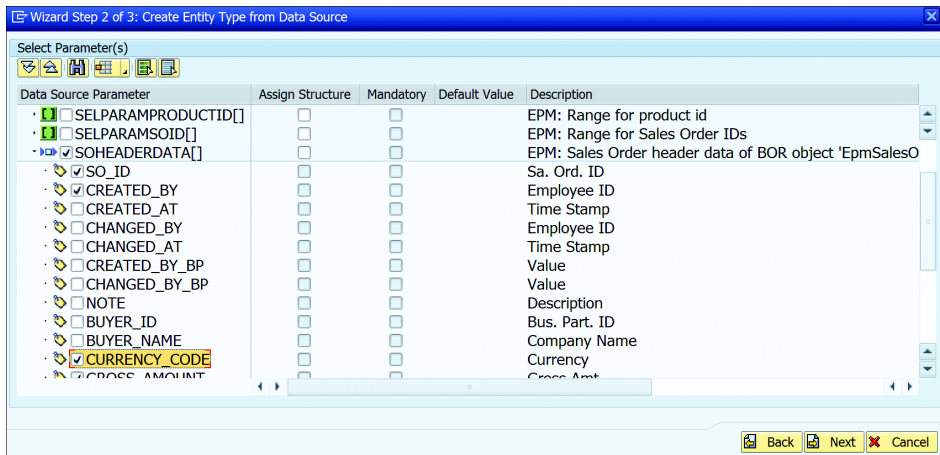

Figure 19.106 Add Fields from Interface
7. The wizard will present the interface of the RFC, from which you can select the relevant fields that should be added to the service. Expand the SOHEADER-DATA[] node and select the relevant sales order header fields, as shown in Figure 19.106. For this example, select SO_ID, CREATED_BY, CURRENCY_CODE, GROSS_AMOUNT, and NET_AMOUNT.